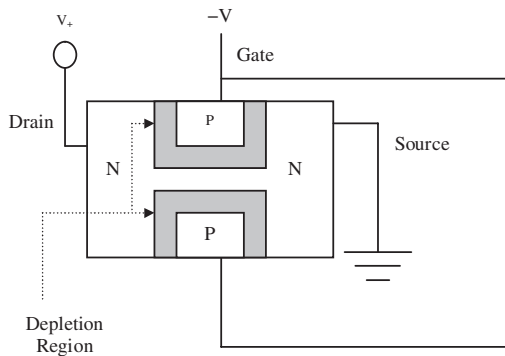

Figure 3-42a: MOSFET 1
15. Which figure, of Figures 3-42a through d, shows a P-channel depletion MOSFET that is ON?